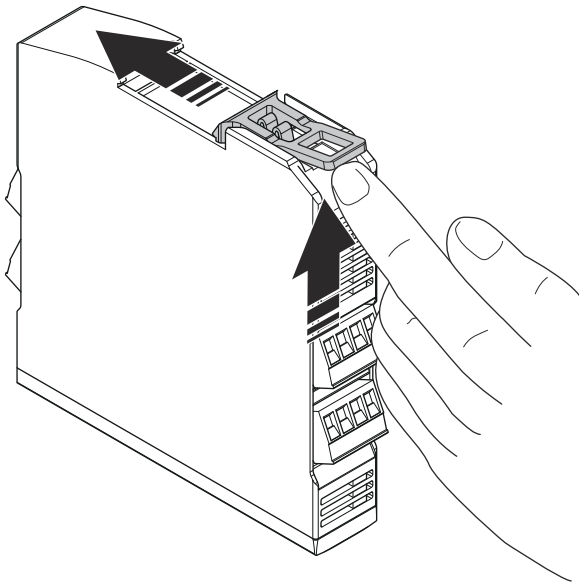

Figure 60: Reset the DIN rail latching device.
1. Make sure that the DIN rail latching is reset, see **Figure 60**.
4. Pull the bottom side of the DIN rail latching device from the safety relay and push it upwards to release it to its original position. See **Figure 60**.